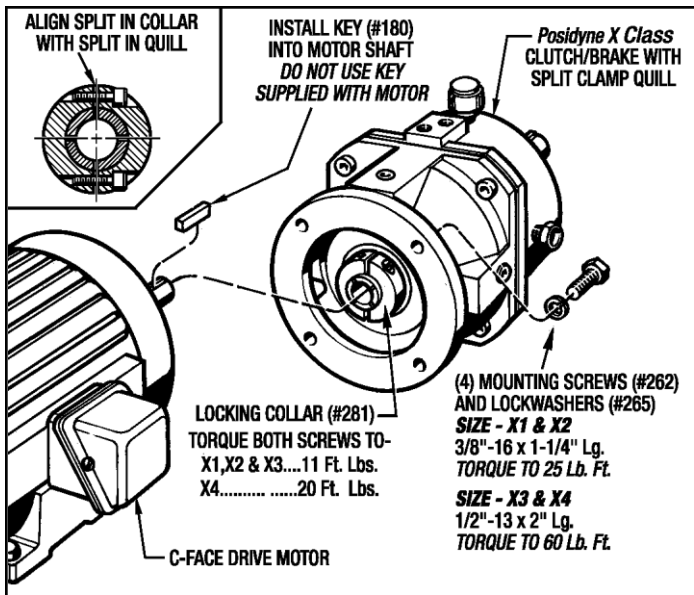

Figure 3.1 - X Class Posidyne Installation
3-2 MOUNTING THE *Posidyne* CLUTCH/BRAKE TO THE MOTOR (See Figure 3.1)
2. Loosely install the Locking Collar (#281) in position on the Input shaft (#2) with the split in the collar aligned with the split in the quill shaft as shown in Figure 3.1. on the next page. **Do not tighten the screws yet.**